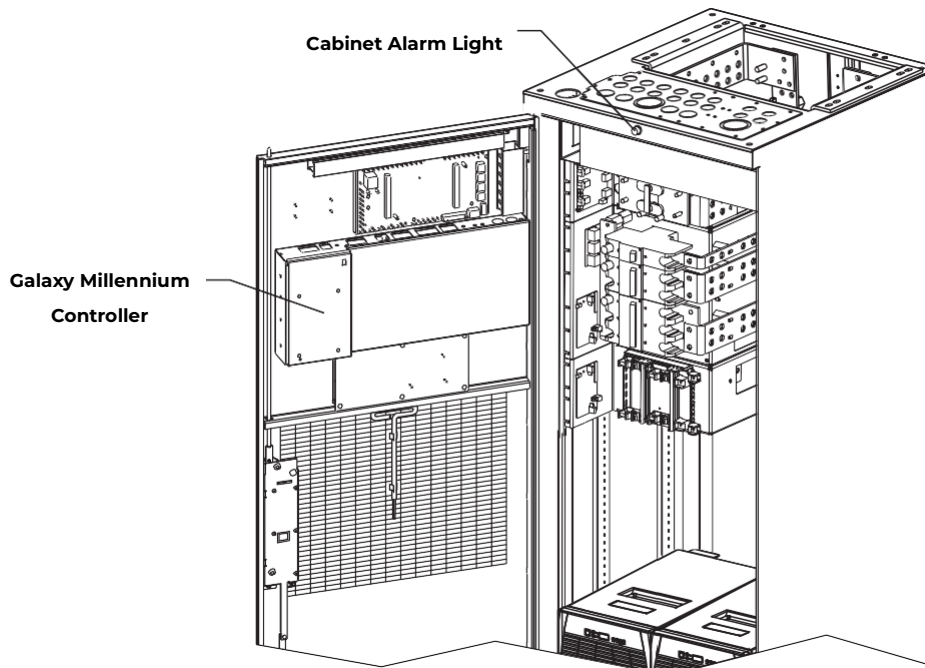

Figure 12-1: Location of Cabinet Alarm Light and Controller
1. Locate the system controller. The controller is typically located in the cabinet identified as BAY ONE. Because a trouble condition exists, the red alarm on the top of the cabinet will be illuminated. See Figure 12-1).